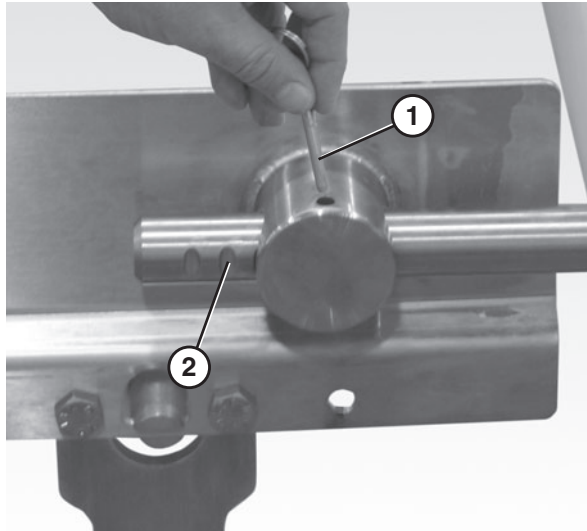

Figure 53
1. Remove both pull pins (Figure 53, item 1) on the tension end of the conveyor.
2. Extend the idler tail to the next groove (Figure 53, item 2) on the bearing shaft.